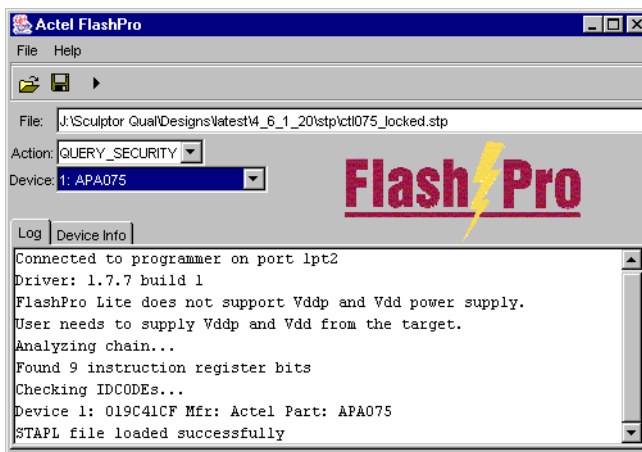

Figure 3-5. STAPL File Loaded Successfully
2. Select your STAPL file and click *Open*. The FlashPro software loads the file. The FlashPro Log window displays a message indicating that the software has successfully loaded the software. See Figure 3-5.